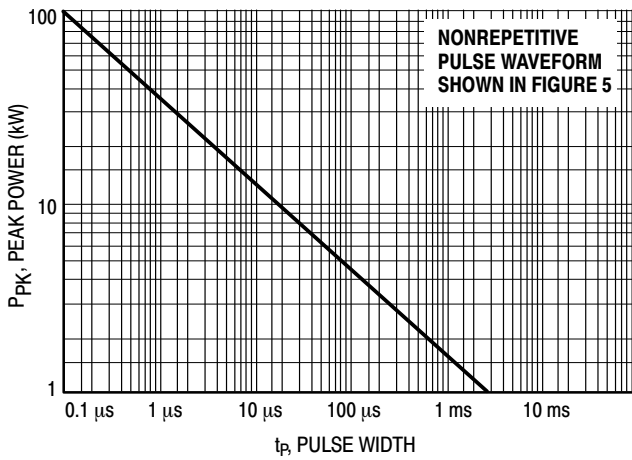
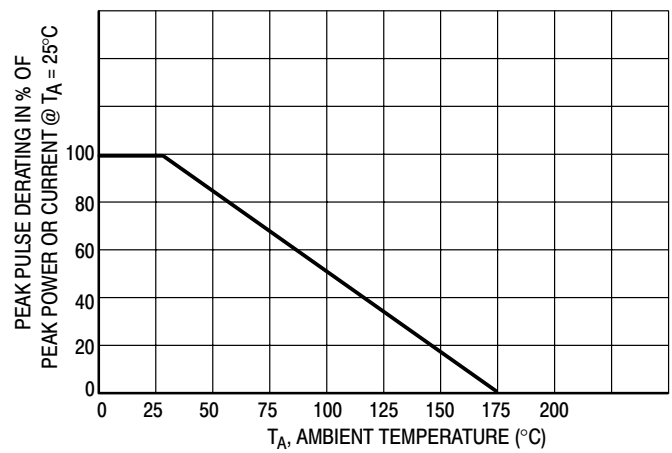
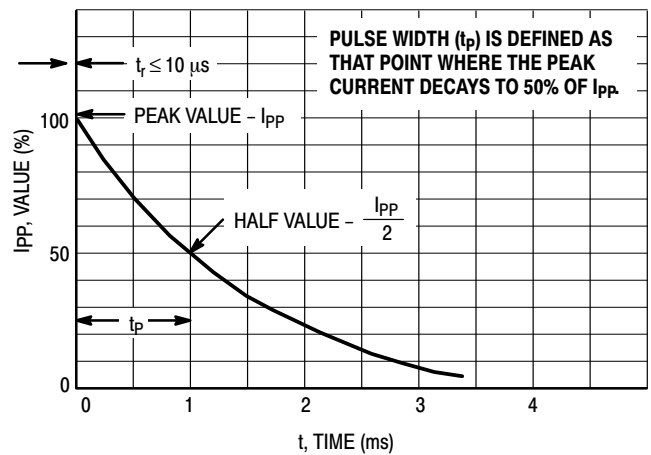
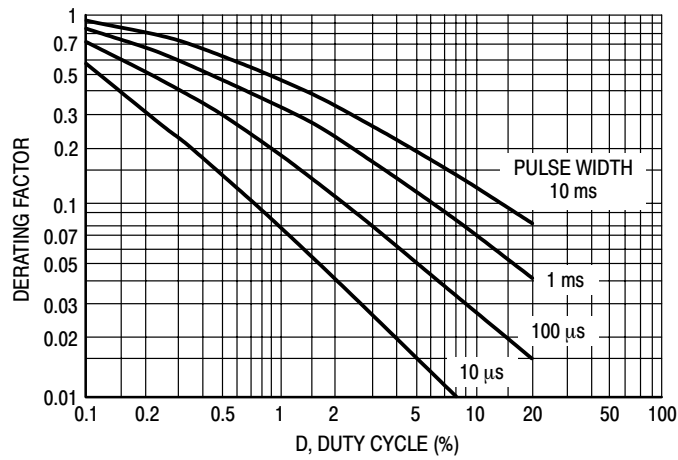

Figure 1. Pulse Rating Curve
Figure 2. Pulse Derating Curve
Figure 5. Pulse Waveform
Figure 7. Typical Derating Factor for Duty Cycle
1. Nonrepetitive current pulse per Figure 5 and derated above  $T_A = 25^\circ\text{C}$  per Figure 2.
- Surge current waveform per Figure 5 and derate per Figures 1 and 2.
The data of Figure 1 applies for non-repetitive conditions and at a lead temperature of 25°C. If the duty cycle increases, the peak power must be reduced as indicated by the curves of Figure 7. Average power must be derated as the lead or ambient temperature rises above 25°C. The average power derating curve normally given on data sheets may be normalized and used for this purpose.
At first glance the derating curves of Figure 7 appear to be in error as the 10 ms pulse has a higher derating factor than the 10  $\mu$ s pulse. However, when the derating factor for a given pulse of Figure 7 is multiplied by the peak power value of Figure 1 for the same pulse, the results follow the expected trend.